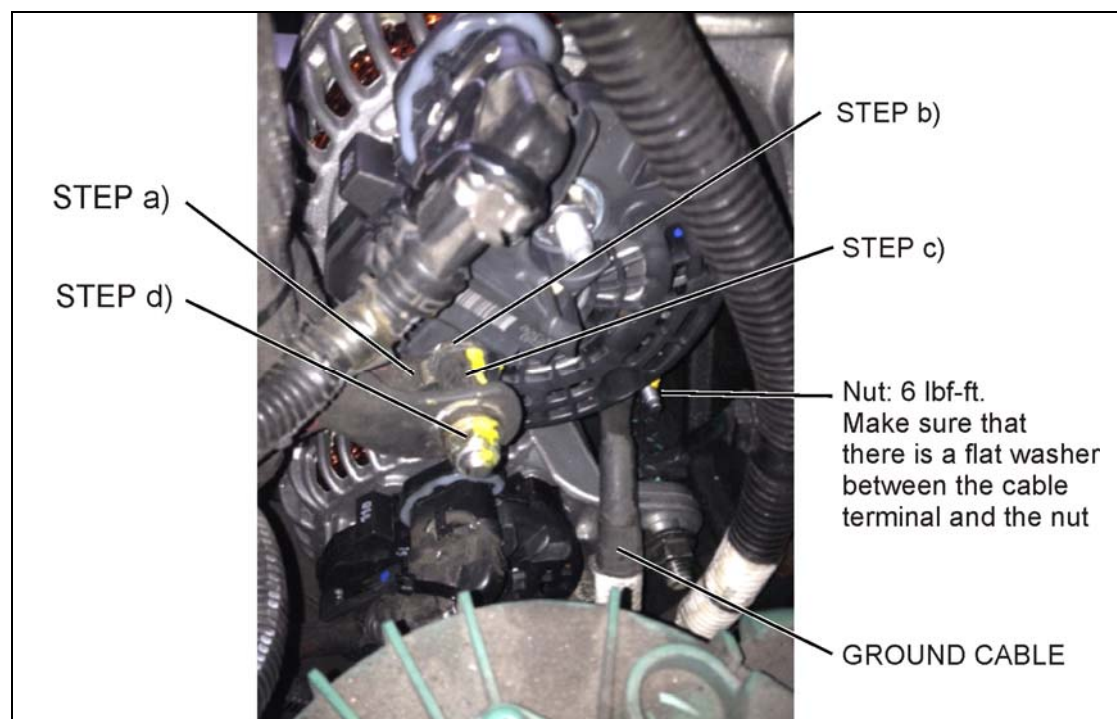

FIGURE 27
- Install jumper cable (a.k.a. positive cable) onto **B1+** stud terminal on upper alternator (FIGURE 27).
- Place one new flat washer #5001341 against the cable ring terminal (FIGURE 27).
- Screw and tighten the adaptor stud #564590 (torque: 10 lbf-ft) (FIGURE 27) prior installing power cable.
- Fit the power cable terminal onto adaptor stud, place one new flat washer #5001341 against the power cable terminal and screw a new nut #5001787 (nut torque: 10 lbf-ft) (FIGURE 27).
15. Fit the ground cable onto the alternator ground stud, place one new flat washer #502573 against the ground cable terminal and screw a new nut #5001182 (nut torque: 6 lbf-ft) (FIGURE 27).